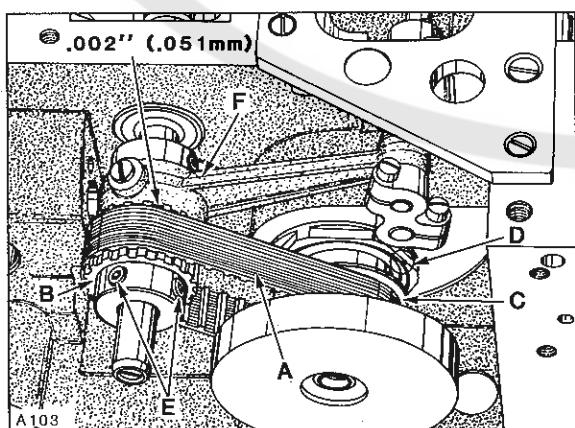
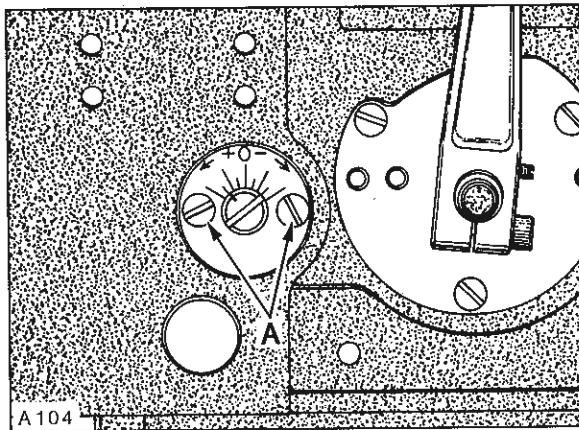

Fig. 4
Fig. 5
NOTE: End cover has been removed for clarity in Figure 4, but MUST BE IN POSITION WHILE MAKING THE FOLLOWING ADJUSTMENTS.
Looper drive belt, (A, Fig. 4) has proper tension if, when turning handwheel in operating direction to position looper in the center of its (right to left) travel...there is no noticeable (right to left) play in the looper mechanism. There should be approximately 1/8 inch (3.2mm) deflection in looper drive belt when pressing firmly with thumb, midway between sprockets (B and C). Adjustment can be made by loosening two screws (A, Fig. 5) and turn looper module (D, Fig. 4) counterclockwise to tighten belt or clockwise to loosen, as viewed in Figure 4. Retighten screws (A, Fig. 5).
Rotate handwheel in REVERSE direction until pin in looper holder again makes contact with gauge plate and note the reading on the gauge. A variation of (1) graduation on the scale is permissible. If the reading is above "0", loosen screws (E, Fig. 4) and turn rear looper drive sprocket (B) towards the operator (clockwise as viewed in Figure 4). If the reading is below "0", turn sprocket away from operator (counterclockwise as viewed in Figure 4). Temporarily snug screws.
Rotate handwheel in OPERATING direction until pin in looper holder contacts gauge plate and note the reading on scale. If the reading is above "0", loosen screws (E) and turn sprocket (B) away from operator (counterclockwise as viewed in Figure 4). If the reading is below "0", turn sprocket towards the operator (clockwise as viewed in Figure 4). Temporarily snug screws.
the left side of needle and check the distance from the eye of needle to the bottom of looper blade. If the distance was greater when handwheel was turned in operating direction, (as viewed in sketch B) loosen screws (E, Fig. 4) and turn rear looper drive sprocket (B) away from operator (counterclockwise as viewed in Figure 4).
the needle to the bottom of looper blade is the same in either direction (as viewed in sketch D). Before tightening screws (E, Fig. 4) securely, be sure to have .002 inch (.051mm) clearance between sprocket (B) and needle guard drive connecting rod (F).
If the distance was greater when handwheel was turned in reverse direction, (as viewed in sketch C) turn sprocket towards the operator (clockwise as viewed in Figure 4). Temporarily snug screws. Continue to check and adjust in both OPERATING and REVERSE directions until the distance from the eye of